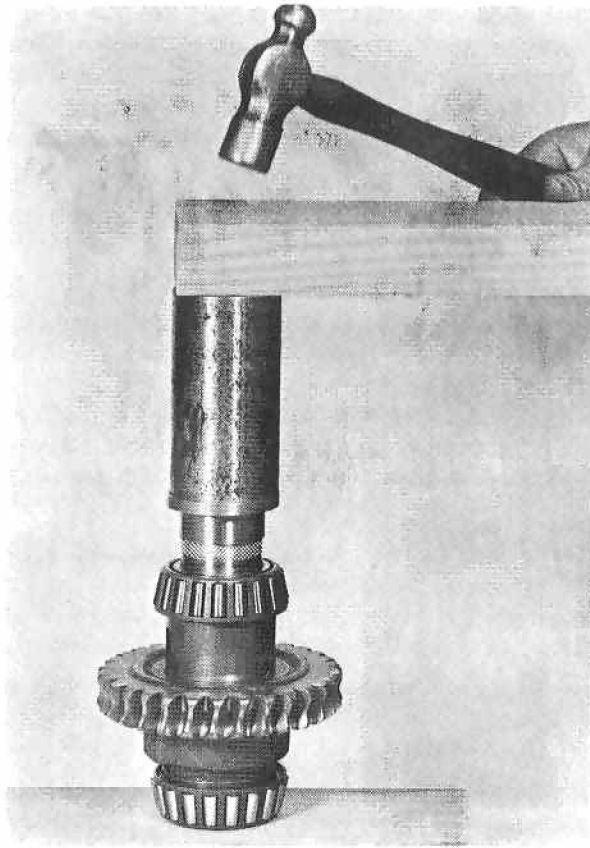

Figure 3
- E. Select a short length of steel pipe with a square end which is large enough in diameter to fit over the shaft extension and smaller than the press-on washer. Center the pipe on the press-on washer and tap with a light hammer. See Figure 3. Continue to tap until the seal sleeve bottoms securely onto the shaft shoulder. The shaft is now ready for installation into the gear case.